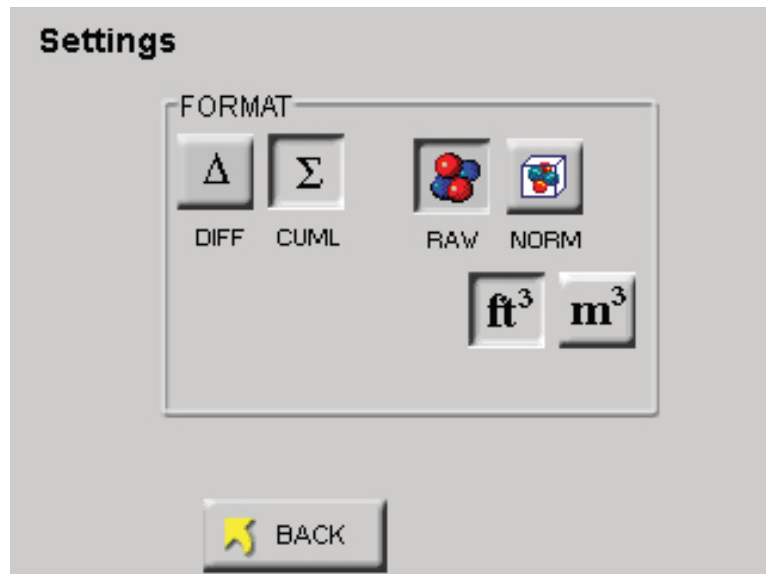

Figure 6-89 Reports Settings Screen
- Select the SETTING button to format the instrument for CUML/DIFF, RAW/NORM, ft³/m³ as shown in Figure 6-89.